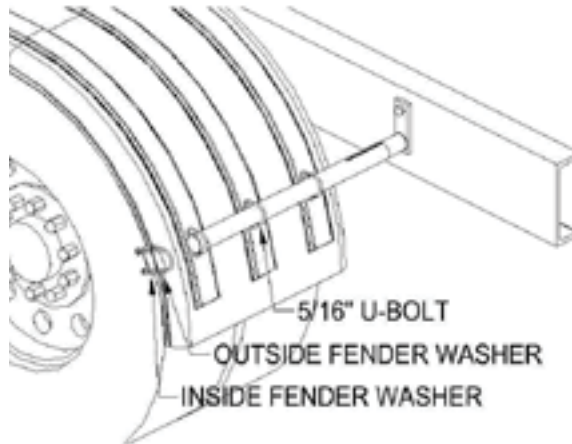

Figure 9
- A. Drill six 5/16" holes thru fender using the holes in fender washers as a guide. Install the 5/16" x 2" x 3.5" U-bolts thru the bracket and into the fender. Use two fender washers per u-bolt. Place one on the inside and outside of fender. Use 3 U-bolts per fender bracket tube. Do not over tighten U-bolts. Hand tightening of bolts is suggested. Make sure the fenders are square and aligned. Twists or bows in the fender will fatigue the material over time. See Figure 9.